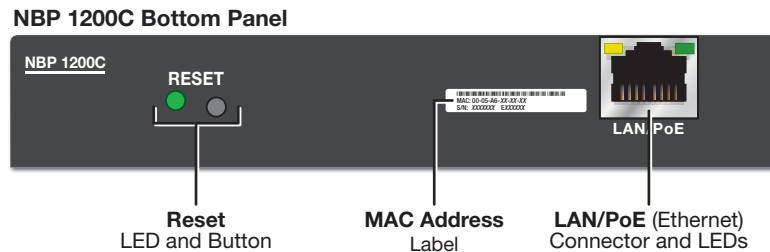
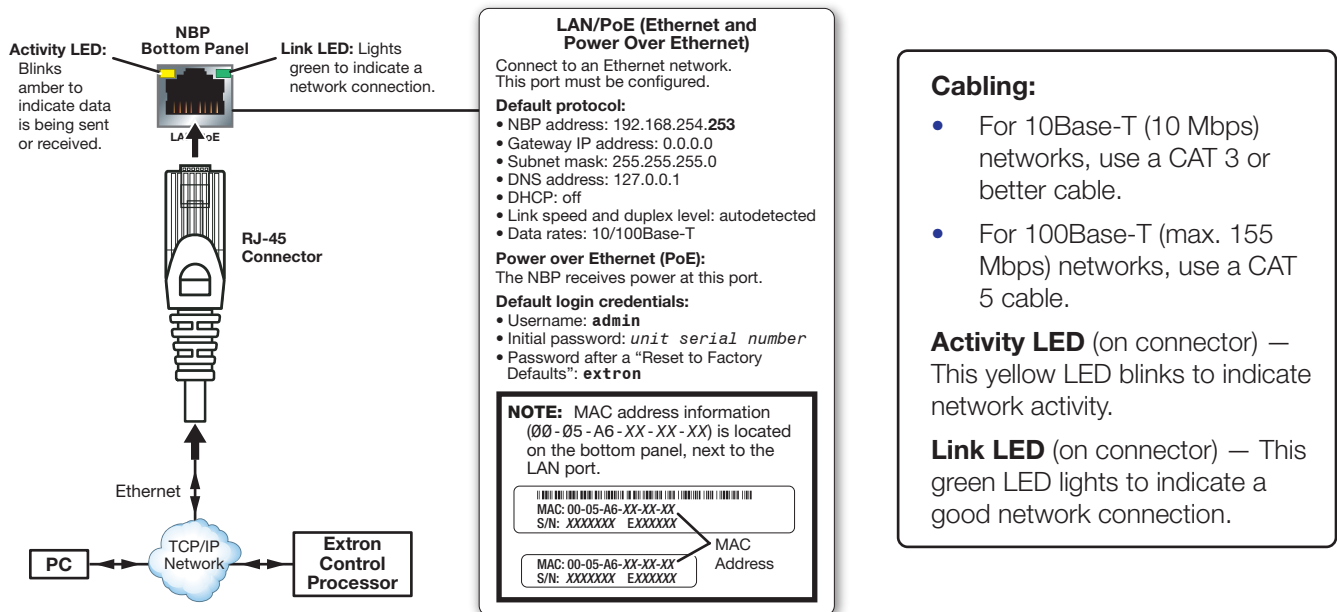

Figure 33. NBP 1200C Bottom Panel Features
Figure 34. NBP 1200C LAN/PoE Port Details
2. Connect the NBP to the network via the LAN/PoE port on the bottom panel of the NBP 1200C (as shown in figure 33). Port details are shown in figure 34.
Details of LAN/PoE port connection, LED behavior, protocol, addresses, and credentials are shown in figure 34.
MAC address — This is the unique user hardware ID number (Media Access Control [MAC] address) of the unit (for example, 00-05-A6-05-1C-A0). You may need this address during configuration. The label is on the bottom panel of the NBP 1200C (as shown in figure 33 on page 33).